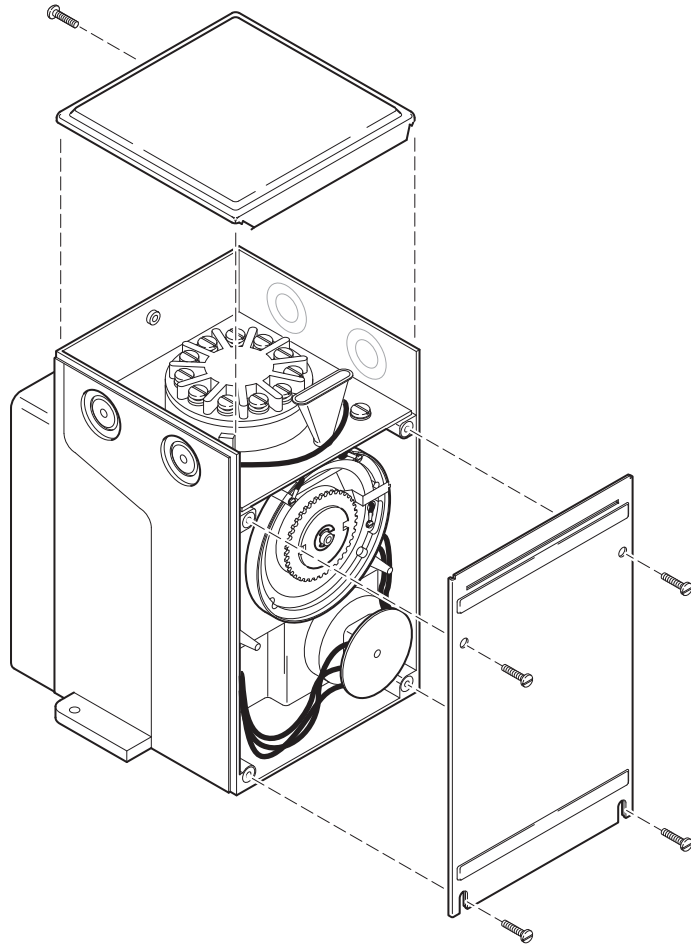

Figure-1 Gasket Cover Kit Used On The MP-381 Actuator.
2. Replace the top and back covers with the AM-363 Gasket Cover Kit (See Figure-1).